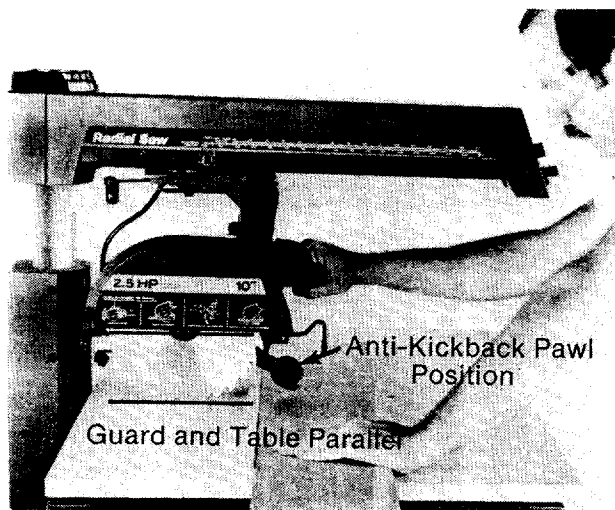

Fig. 94 - Crosscut Blade Guard and Body Position
**WARNING:** To reduce the risk of contact with the upper half of the blade and keep the workpiece from jamming in the guard, set the blade guard in the horizontal position. Fig. 94.
**⚠ WARNING:** The blade guard must be horizontal to provide protection from contact with the upper half of the blade and avoid the workpiece being jammed in the blade. Set the blade guard in the horizontal position. Fig. 94.